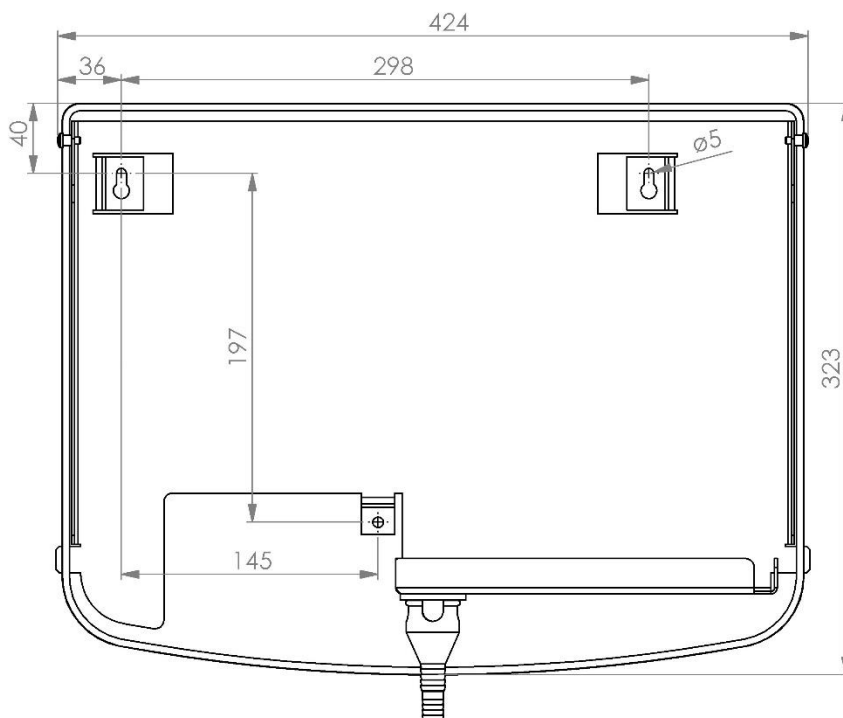

Figure 10
1. Drill the mounting holes as specified in figure 10.